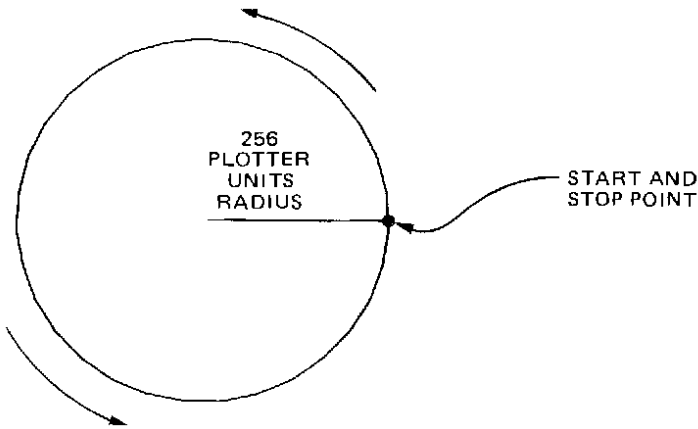

Figure 6-3. Arc Counterclockwise
**Result** Retrace the circle just plotted in a counterclockwise direction (see Figure 6-3). Note that when no new radius parameter is specified, the plotter uses the last radius parameter received for the new instruction. The actual plot drawn with the instruction is shown in Detail A, Figure 6-22.